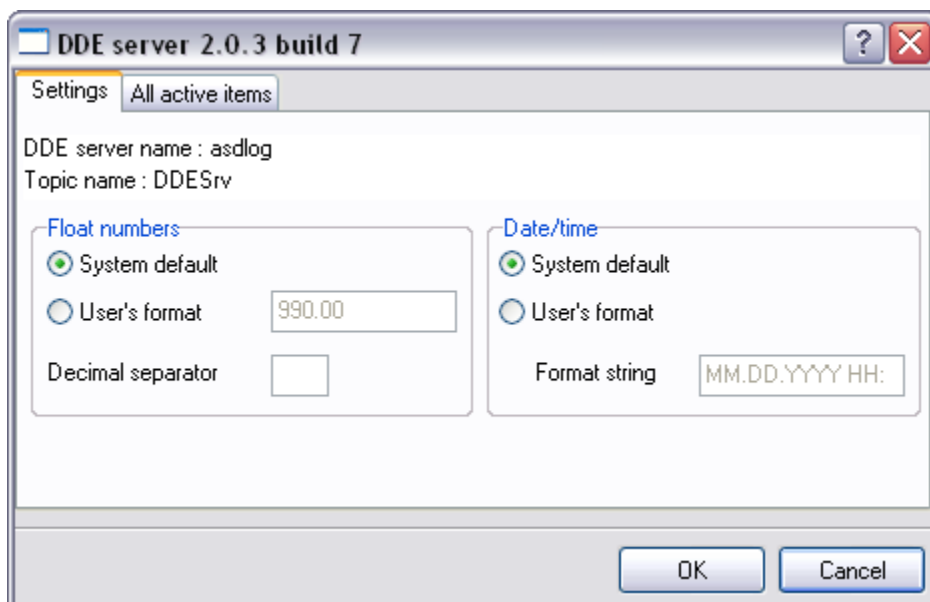

Fig.1. DDE server configuration window
5. You will see the server name in the "DDE server name" field and the section name in the "Section name" field in the new dialog box (Fig.1). You can copy data from these fields to the clipboard. To do it, select the text in the corresponding field and press Ctrl+C on the keyboard.